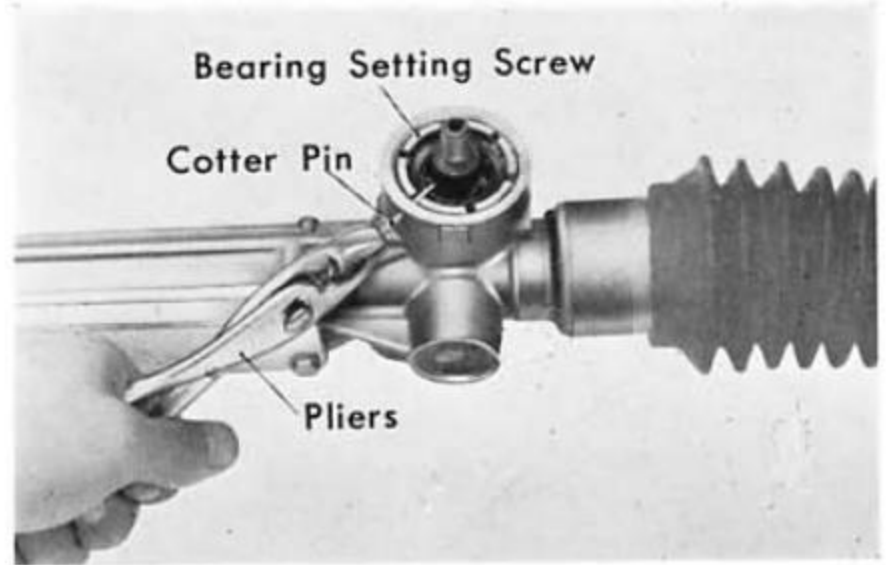

Fig. 10B-17
- After the installation of the oil seal, install and tighten the set screw with the adjuster wrench and then lock with a cotter pin (Fig. 10B-17). Open the ends of the cotter pin in both directions.
- After assembling the rack and the rack guide, check the backlash between the rack and pinion by locking the rack and checking with the pinion. There should be no backlash (Fig. 10B-18).